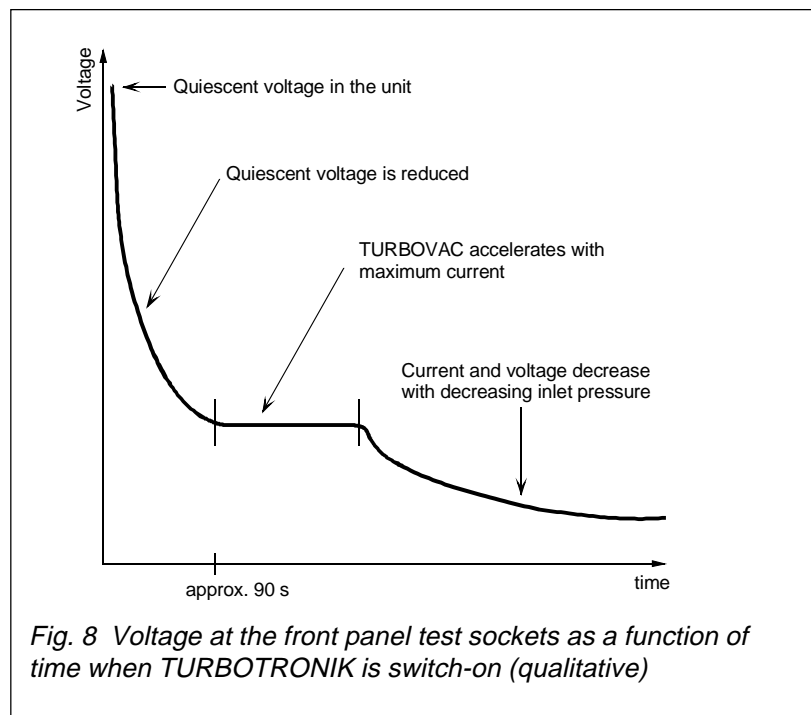

Fig. 8 Voltage at the front panel test sockets as a function of time when TURBOTRONIK is switch-on (qualitative)
4.3.1 Connecting the relay contacts (also refer to Fig. 8)
A voltage is available at the front panel test sockets, which is proportional to the DC link current in the TURBOTRONIK (1 mV = 1 mA). For specific operating statuses, this current can be assigned a particular inlet pressure; *also refer to Fig. 8.*